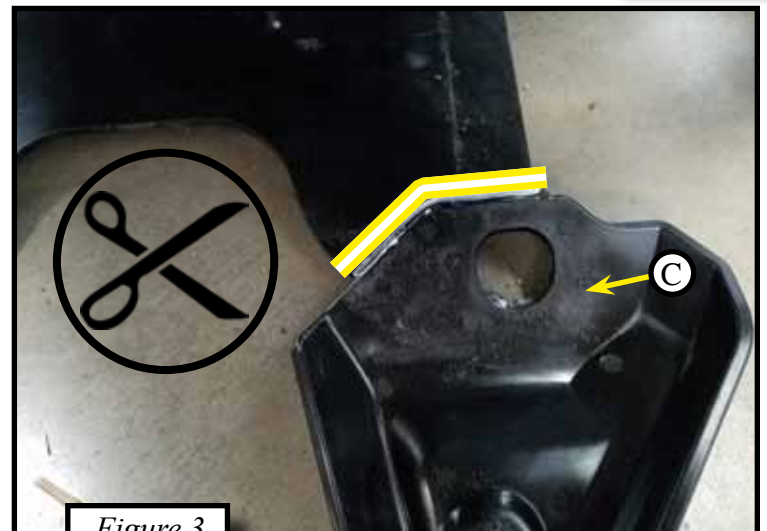

Figure 3
3. Line the holes on the plastic cover (C) up with the holes on the skid plate. Using the plastic cover (C) as a template, cut the skid plate along the edges. Shown in Figure 3.